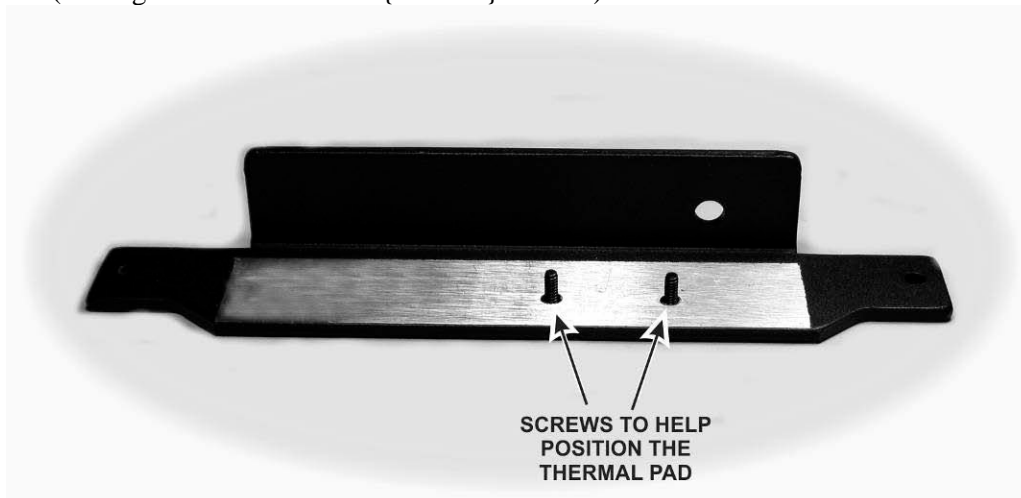

Figure 37. Heat Sink Ready for Thermal Pad.
□ Lay the heat sink down on your work table as shown Figure 37 with the two 4-40 flat head screws in the holes as shown. The screw size is not important. They are there only to help you align the thermal pad over the bare metal area. (The figure shows two 3/8" {9.5 mm} screws.)